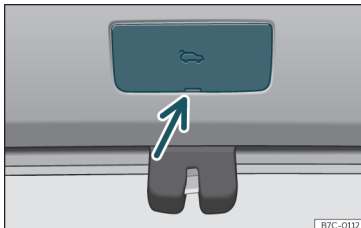

Fig. 7 Luggage compartment: access to manual release.
- Remove the cover using the key blade as a lever >>> **Fig. 7**.